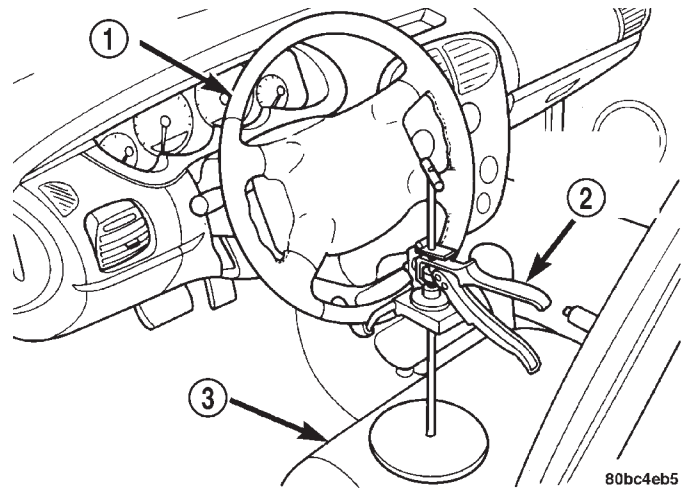

Fig. 2 Steering Wheel Holder
(1) Place the steering wheel in the STRAIGHT-AHEAD position. Using a steering wheel holder, lock the steering wheel in place to keep it from rotating (Fig. 2). This keeps the clockspring in the proper orientation.